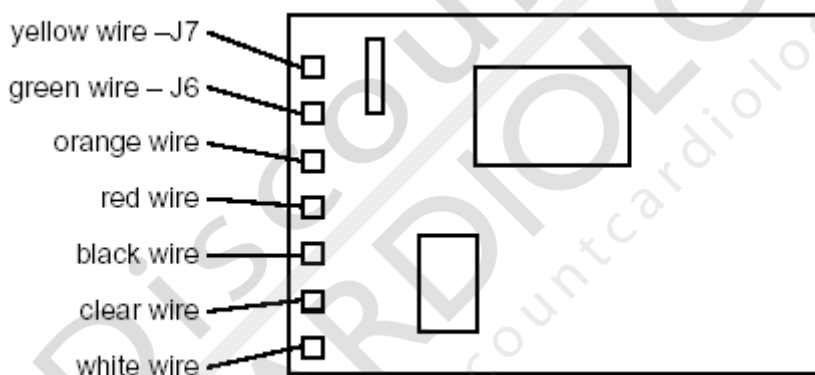

Figure 4-3. RTV removal from NONIN SpO₂ PCB.
21. Remove rtv from the back side of seven wire solder connections as shown in Figure 4-3.
22. Unsolder wires from board as per Figure 4-3.